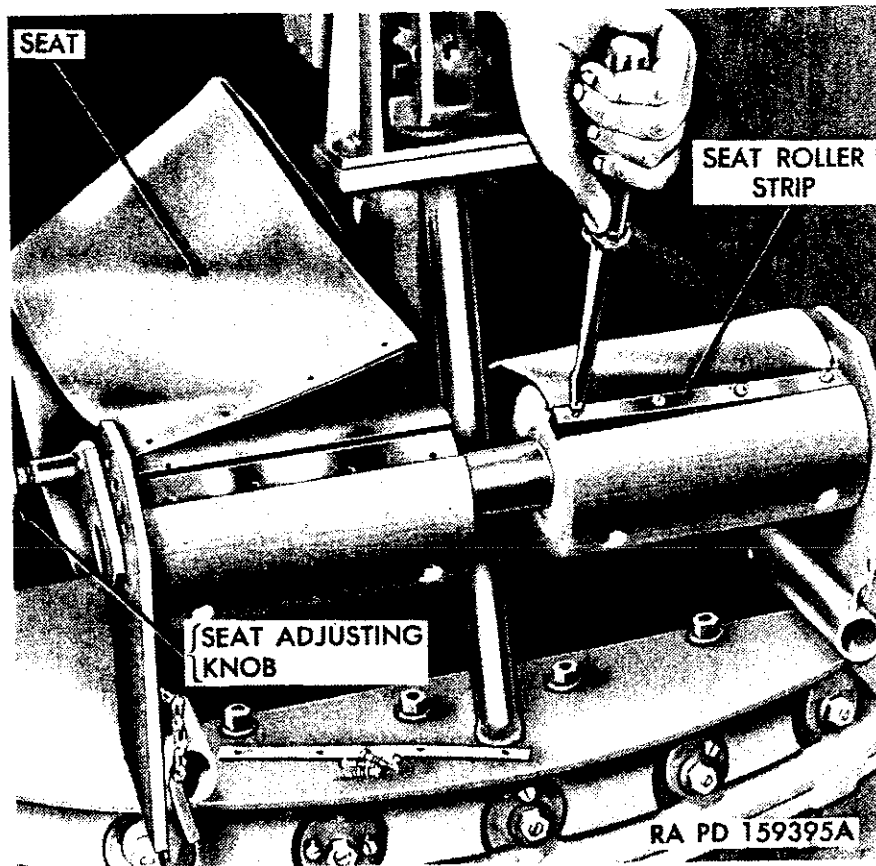

Figure 67. Seat and seat roller group.
- (1) Turn seat adjusting knob (fig. 67) counterclockwise until the end of seat appears.
- (2) Unscrew and remove four screws on each seat securing strip and remove seat strip. Remove the cloth seat.